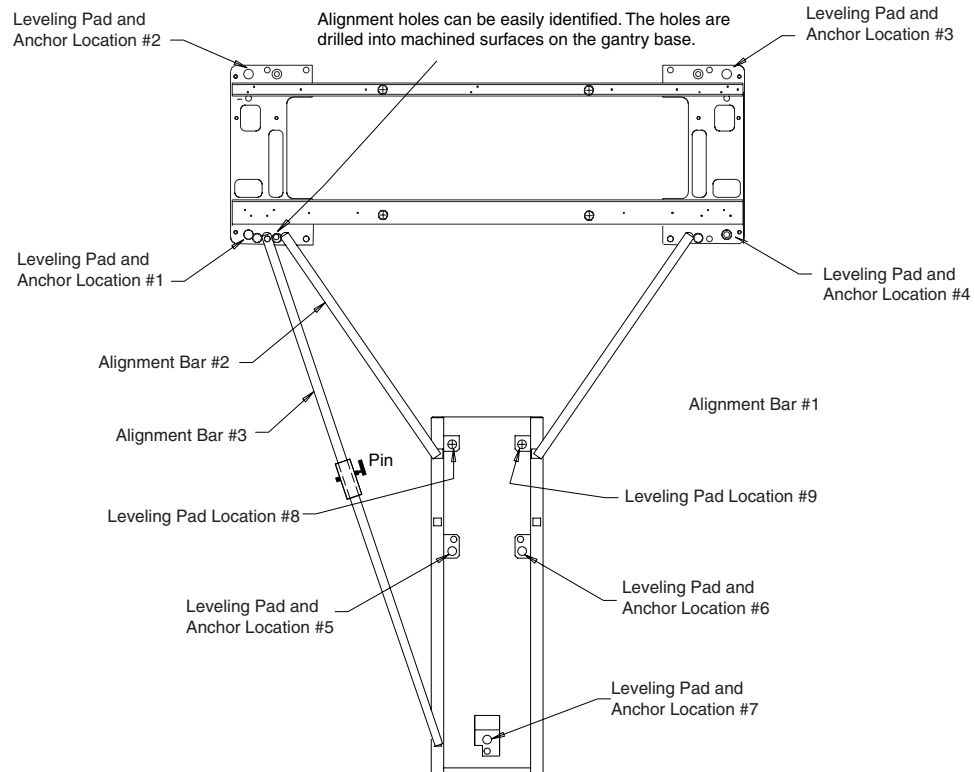

Figure 1-16 Table Base Leveling Pad and Anchor Locations
Adjuster locking ring at location #1 (see Figure 1-16) must be removed to properly position the alignment bars. Also, observe the following:
- 2.) The short alignment bars, #1 and #2, are identical and interchangeable. Refer to Figure 1-16:
- Do NOT rest the level on the radiused surface on alignment bar #3. (See Figure 1-16.)Because the leveling pads rest against the bottom of the base, you have to raise the table from its lowest position to get it leveled.